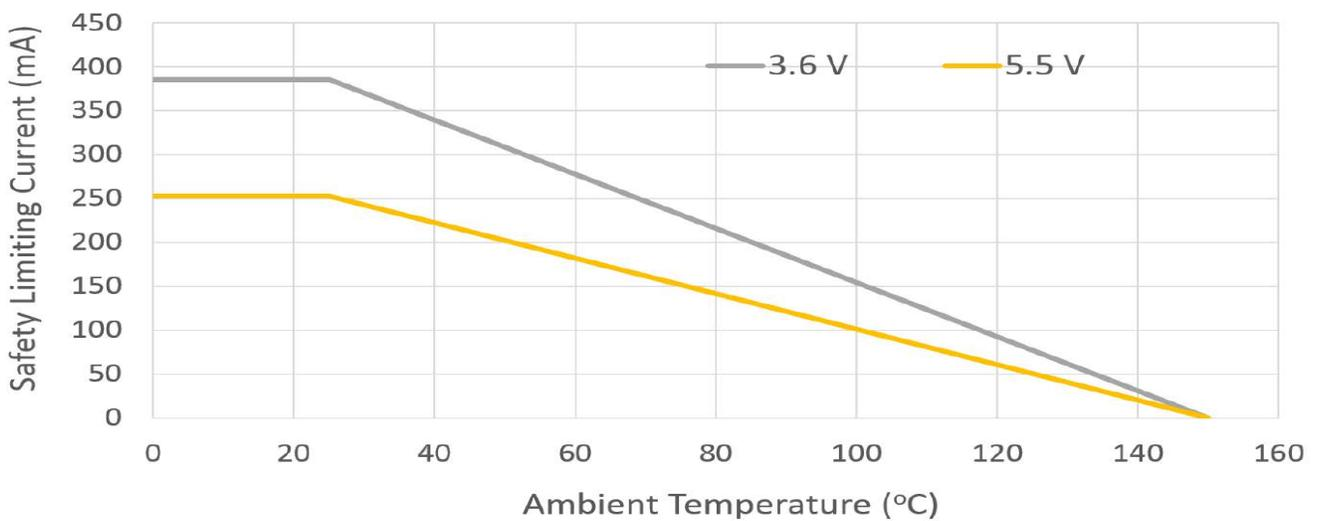
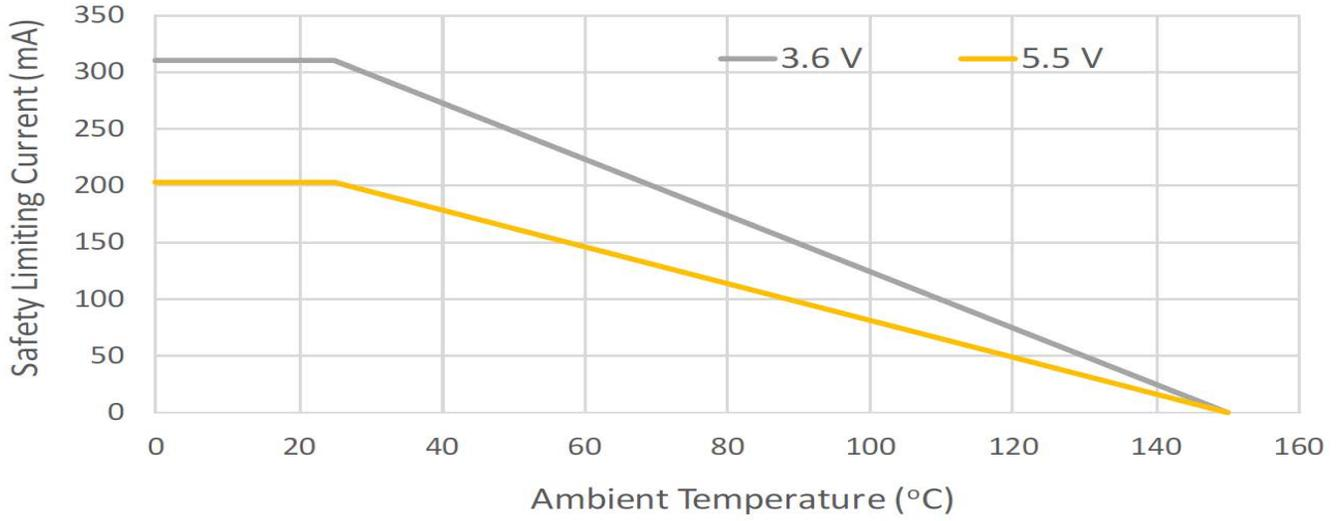

Figure 41. WB Stretched SOIC-8 Thermal Derating Curve (Dependence of Safety Limiting Current)
Figure 42. NB SOIC-8 Thermal Derating Curve (Dependence of Safety Limiting Current)
1. Maximum value allowed in the event of a failure. Refer to the derating curves Figure 41, “WB Stretched SOIC-8 Thermal Derating Curve (Dependence of Safety Limiting Current),” on page 18 and Figure 42, “NB SOIC-8 Thermal Derating Curve (Dependence of Safety Limiting Current),” on page 19.